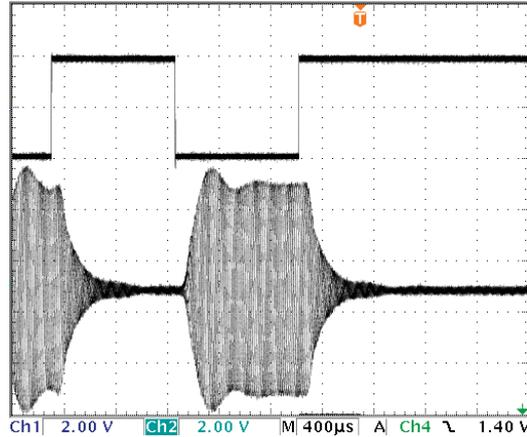

Figure 6: Filtering the FSK signal
5. Turn the Tunable LPF's Cut-off Frequency Adjust control slowly from fully clockwise until the higher frequency component of the FSK signal becomes equal to zero, as shown in Figure 6.